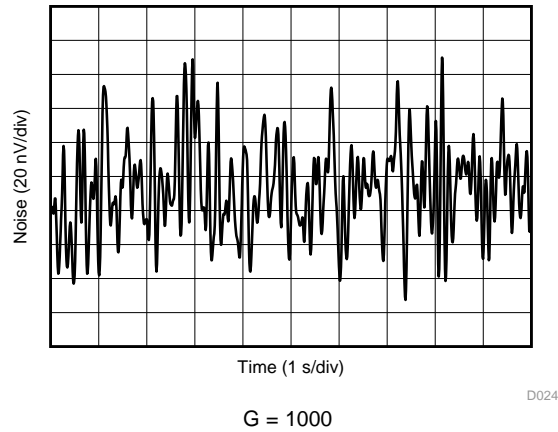

Figure 25. 0.1-Hz to 10-Hz RTI Voltage Noise, $G = 1000$
0.1-Hz to 10-Hz RTI Voltage Noise, $G = 1000$	Figure 25